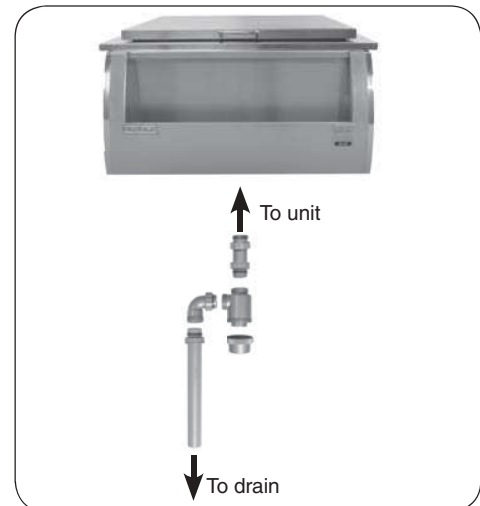

Fig. 2-3 Plumbing installation
3. Assemble and attach the supplied drain kit to the unit as shown in Fig. 2-3. Plumb to a drain or as appropriate for your installation. Observe all local codes.